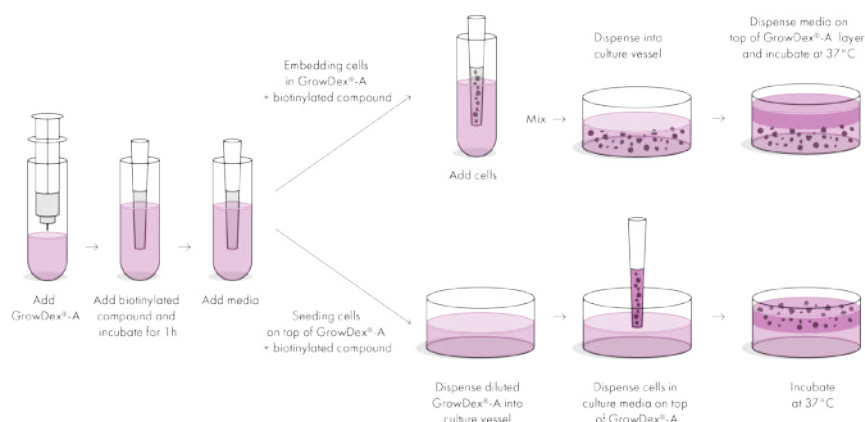

Figure 2. Binding, diluting, mixing, and plating of GrowDex-A-biotinylated compound mixture.
- C. The cells can be either seeded on top or embedded in GrowDex-A-biotinylated compound mixture, see Fig. 2.